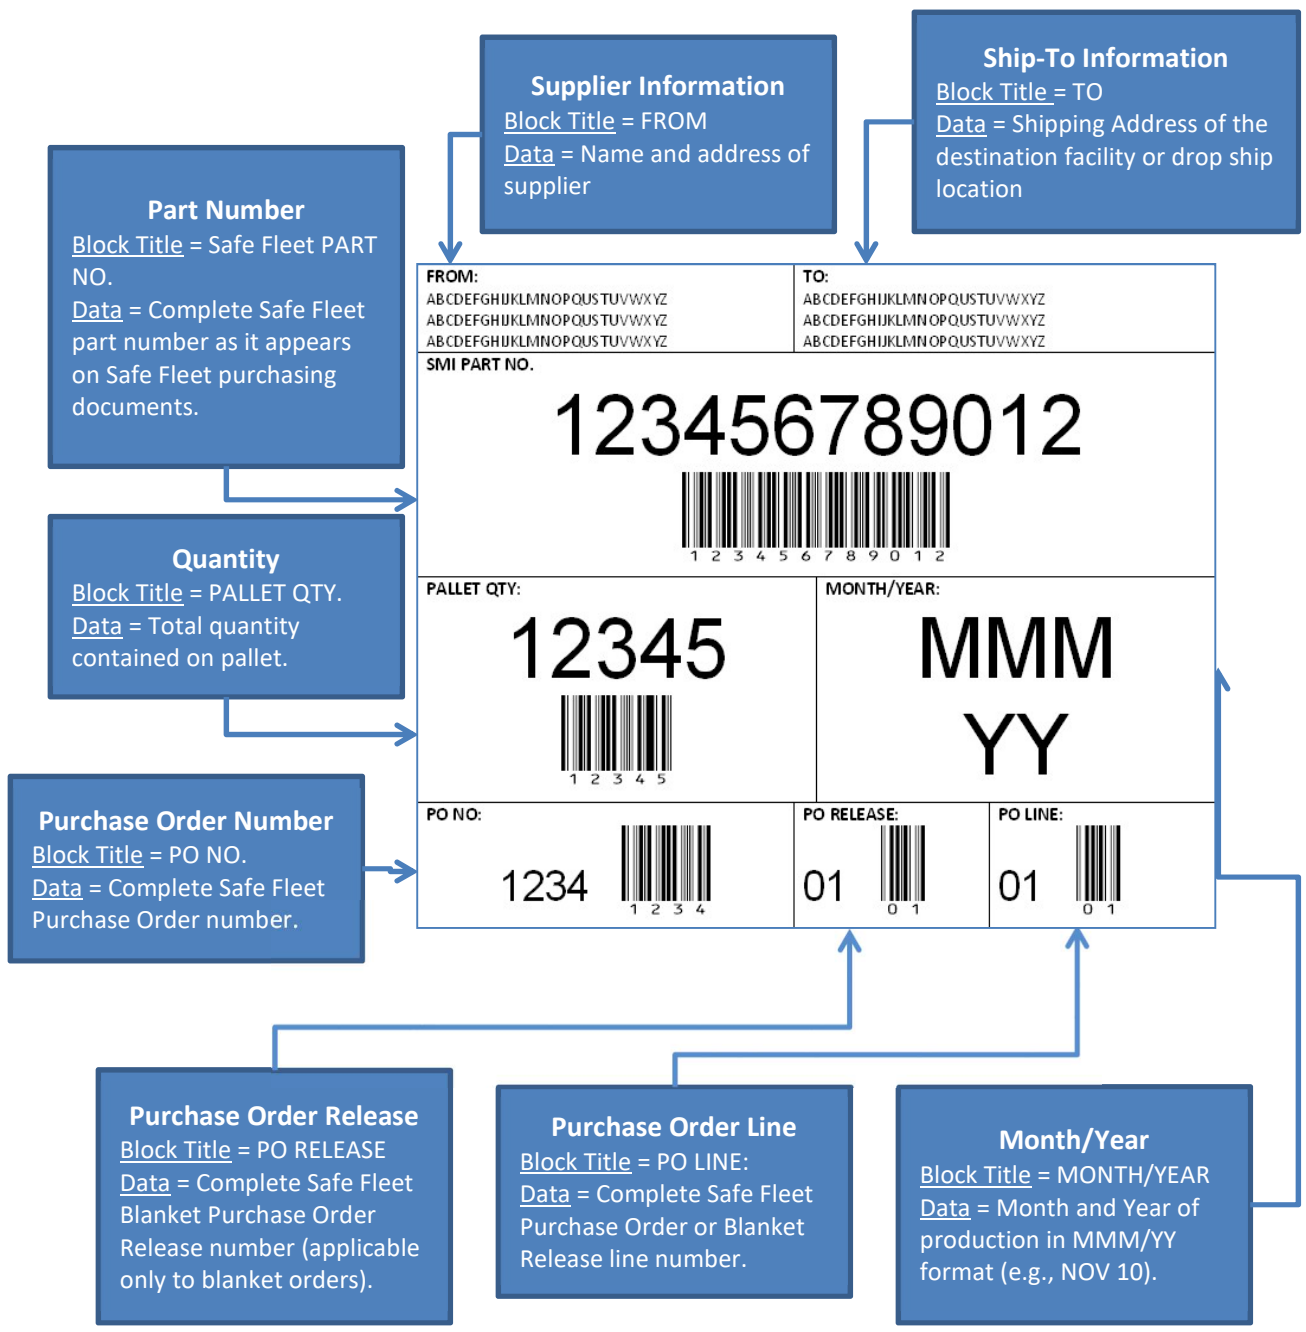

Figure 2
- 3.3 Each pallet of product shipped to Safe Fleet shall be labeled with a Pallet Label as defined below (refer to Figure 2). For pallets containing multiple part numbers, the pallet shall be labeled with a Pallet Label for each part number contained on the pallet, totaling the quantity of each part number on the pallet.
- 5.2 Pallet Label (refer to Figure 2 below):
[Document continued with Figure 2 on page 6]